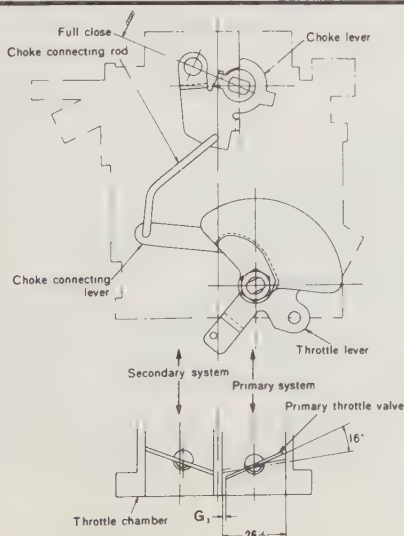

Fig. 3.13. Choke linkage adjustment
- 2 Measure the clearance between the upper edge of the primary throttle valve and its bore 'G' in Fig. 3.13, with a wire gauge. It should be as specified in Specifications at the beginning of this Chapter.